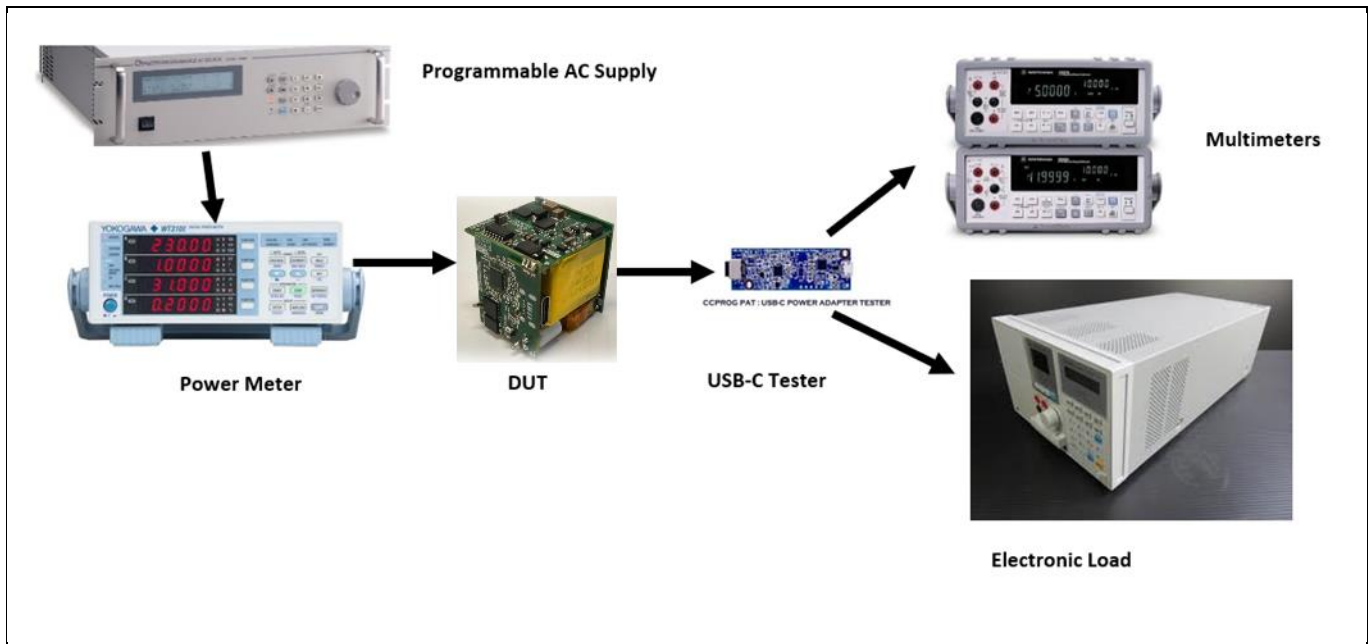

Figure 6 Test equipment connected to the standalone REF_65W_HFACF_PAG2 board
Figure 6 shows the test setup to capture the electrical data of the DUT. The following is the optimal setup to capture efficiency by capturing:
1. Connect the 65-W solution board to the power meter AC terminal (which is already connected to the programmable AC supply) as in Figure 6.
3. Connect the electronic load at the PAT tester load terminal as in Figure 6.